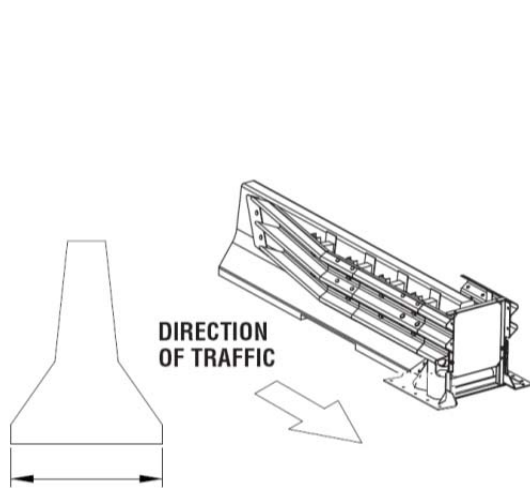

FIGURE 10
Note: Maximum stud height for front anchor locations shown is 40 mm [1.5"] (See Figure 10).
- 3/4" x 7" Anchor Studs Torque to 165 N-m [120 ft-lb] (See Figure 10)
- 3/4" x 18" Threaded Rods Torque <14 N-m [10 ft-lb] (See Figure 10)